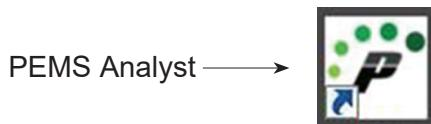

Figure 2-9 - Desktop Shortcut
1. Double-click the PEMS Analyst shortcut on the Windows desktop. See fig. 2-9